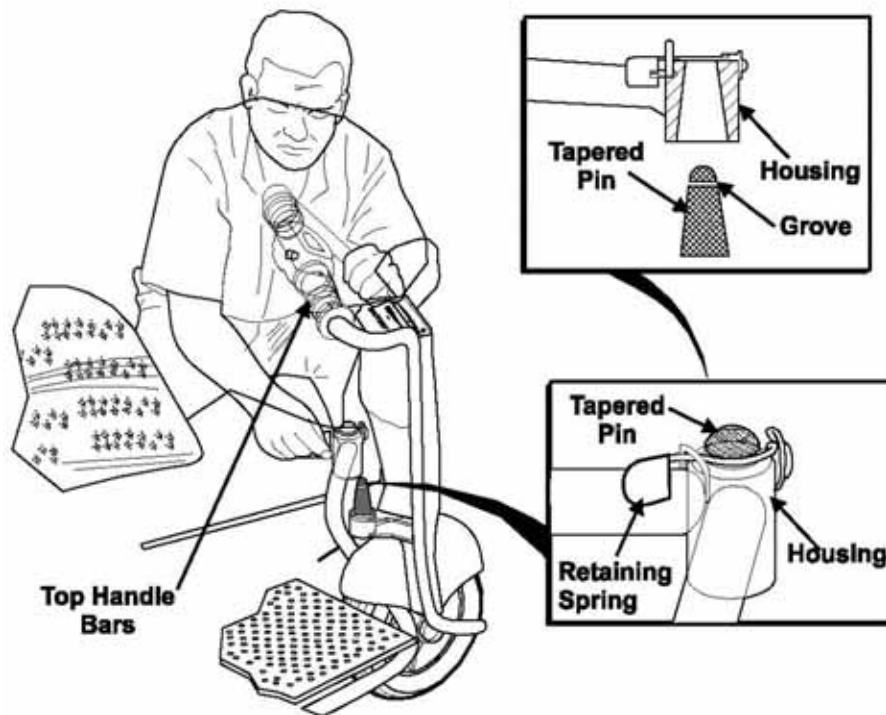

Figure 3.
- a. Place **Tiller** in front of the **Frame**. (See **Fig. 3**). Kneel at the left side of the **SUPERLIGHT** holding the left side of the **Top Handle Bars** of the **Tiller** with your left hand. The **Tiller** should be vertical and slightly inclined backward as shown in **Fig. 3**.